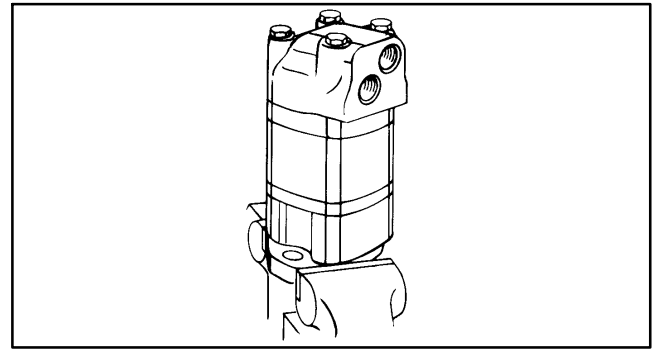

Figure 71
23. Clamp housing in vise, see Fig. 71.